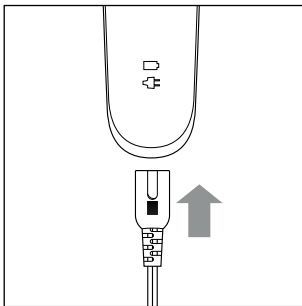

Fig. 1
- 2) Connect the barrel plug  9 of the mains adapter  8 to the appliance (see fig. 1).
- 2) Connect the barrel plug ❸ of the mains adapter ❸ to the appliance (see fig. 1).
- 3) Plug the mains plug of the mains adapter ❸ into an easily accessible mains socket (100 – 240 V ~, 50/60 Hz).
- 4) Switch the appliance on by sliding the ON/OFF switch I/O ❺ to position I.